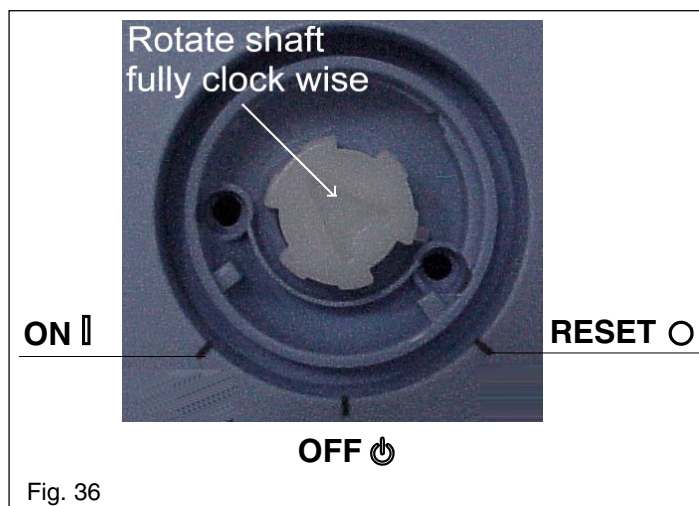

Fig. 36
- Remove the mode selector knob and turn the shaft fully clockwise (see fig. 36).